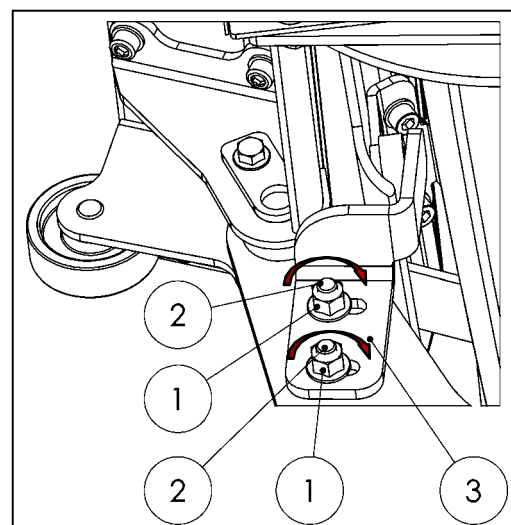

Figure 86
- Tighten the nuts (1) and bolts (2) on the stopper (3) to a torque of 80 Nm (see Fig. 86).